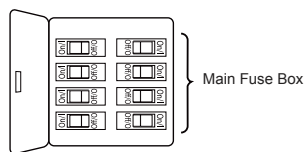
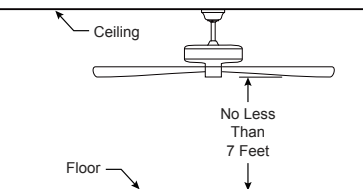
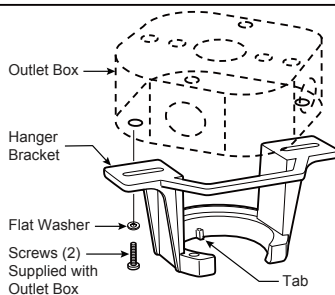

Figure 1
Figure 2
Figure 3
Your new ceiling fan will require a grounded electrical supply line of 120 volts AC, 60 HZ, 15 Amp Circuit. Electrical code requires use of a fan-rated outlet box to support the extra weight and motion associated with a ceiling fan. A fan-rated box will be labeled as such and typically supports up to a 70lb ceiling fan. Fan-Rated Outlet Boxes vary in ratings and design. Ensure the ratings of your ceiling fan outlet box meet the requirements for the ceiling fan being installed. Figure 1, Figure 2 and Figure 3 depicts different structural configurations that may be used for mounting the outlet box.
Low profile box (Figure 1)
Deep box (Figure 2)
Deep box with brace (Figure 3)
- ☐ 1. Remove the three stabilizer tabs and plastic bag from the motor assembly. Discard the stabilizer tabs. (Figure 1)
- ☐ 2. Remove the hanger ball portion from the downrod/hanger ball assembly by loosening the set screw in the hanger ball until the ball falls freely down the downrod. Remove the pin from the downrod, then remove the hanger ball. Retain the pin and hanger ball for reinstallation in Step 7. (Figure 2)
- ☐ 3. Remove the hairpin clip and clevis pin from the bottom of the downrod. Retain the pin and clip for reinstallation in Step 5. (Figure 3)
To avoid possible fire or shock, be sure electricity is turned off at the main fuse box before hanging. (Figure 1)
The fan must be hung with at least 7' of clearance from floor to blades. (Figure 2)
- ☐ 1. Securely attach the hanger bracket to the outlet box (not included) using the outlet box screws and washers supplied with the outlet box. (Figure 3)
1. To set the code on receiver unit, slide dip switches to the same positions as set on the remote control. (Figure 1)
To avoid possible electrical shock, be sure electricity is turned off at the main fuse box before wiring. (Figure 2)
2. Slide the receiver into the hanger bracket before wiring as shown in figure 3.
1. Assemble canopy by rotating key slot in canopy over shoulder screw in hanger bracket, taking care not to pinch the wires. Tighten shoulder screw. Fully assemble and tighten second shoulder screw that was previously removed. (Figure 1)
2. Securely attach and tighten the canopy screw cover over the shoulder screws in the hanger bracket utilizing the key slot twist-lock feature. (Figure 2)
- ☐ 2. Secure the blade cover to the hub of motor assembly using 3/16"-24 flat head screw. (Figure 2)
- ☐ 1. Remove one of the three screws in the support bracket at the bottom of the motor assembly. Retain the screw for later and slightly loosen the remaining two screws. (Figure 1)
- ☐ 2. Assemble the switch housing assembly to the support bracket using the two key slots in the switch housing assembly. Replace the previously removed screw and securely tighten all three screws. (Figure 2)
- ☐ 3. Remove one of the three screws in the switch housing assembly. Retain the screw for later and slightly loosen the remaining two screws. (Figure 3)
- ☐ 1. **IMPORTANT:** Using a full range dimmer switch (not included) to control fan speed will damage the fan. To reduce the risk of fire or electrical shock, do not use a full range dimmer switch to control the fan speed. (Figure 1)
- ☐ 2. Restore electrical power to the outlet box by turning the electricity on at the main fuse box. (Figure 2)
- ☐ 3. Remove the battery cover from remote control by screwdriver and retain the screw for later. (Figure 3)